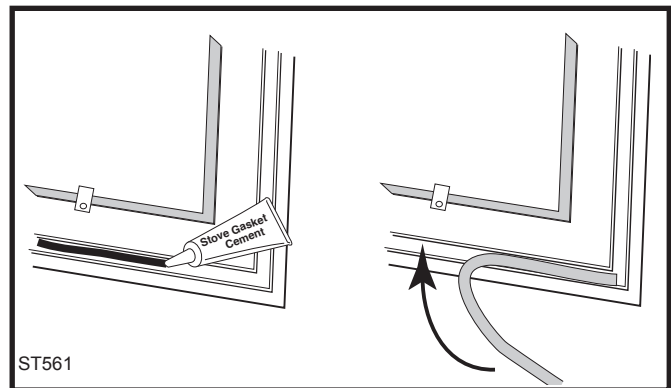

Fig. 48 Lay a bead of gasket cement then press gasket in place.
5. Lay an unbroken 1/8" (3 mm) bead of gasket cement in the newly-cleaned channel. (Fig. 48)
6. Starting at one end, press the gasket into the channel. (Fig. 48) Ensure a good joint where the gasket meets before trimming any excess. Do not overlap the gasket ends or leave ends with ragged edges.